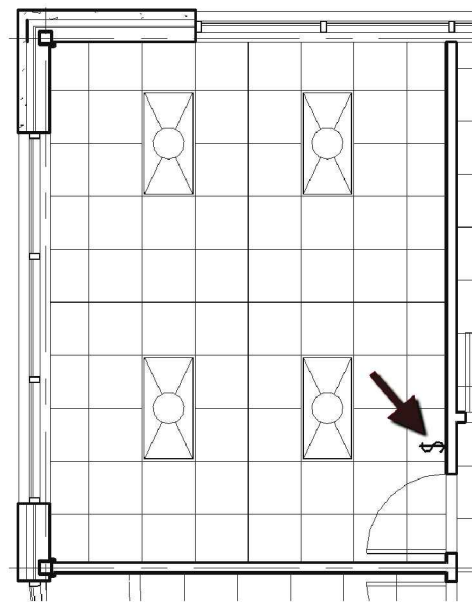

FIGURE 14-4.5 Level 1 light switch placed
21. Click on the wall (in the *Associate's Office*) near the door to place the light switch as shown in Figure 14-4.5.